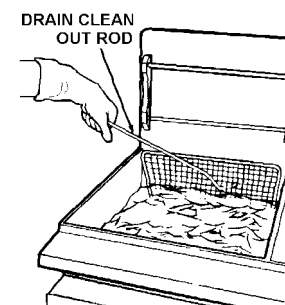

Figure 1.3: Remove screen over elements
2. Place in clean filter tub (See Figure 1.3):
3. Remove screen from over tubes/element with tongs or a Drain Clean Out Rod (See Figure 1.3).